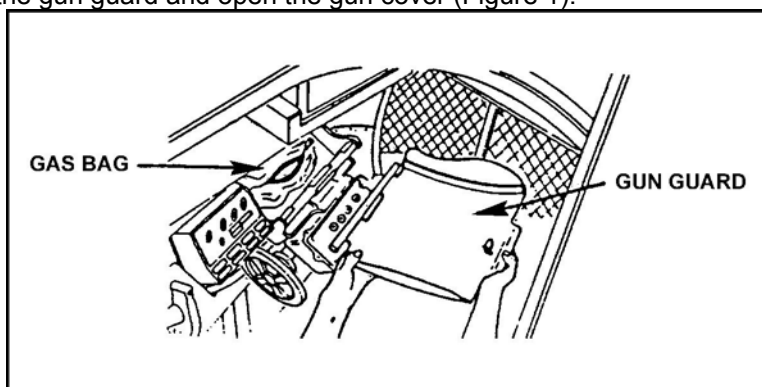

Figure 1. Gun guard and gun cover.
- b. Remove the gun guard and open the gun cover (Figure 1).